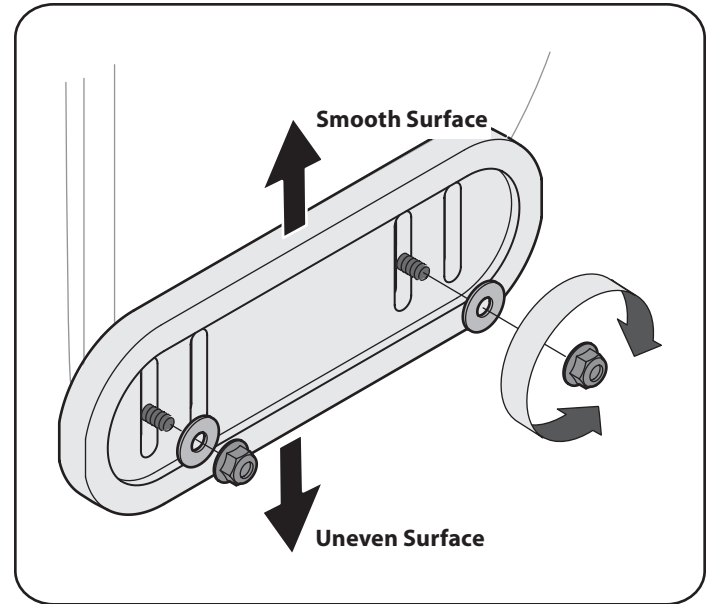

Figure 14
1. Loosen the four hex nuts (two on each side) and carriage bolts. Move skid shoes to desired position. See Figure 14.